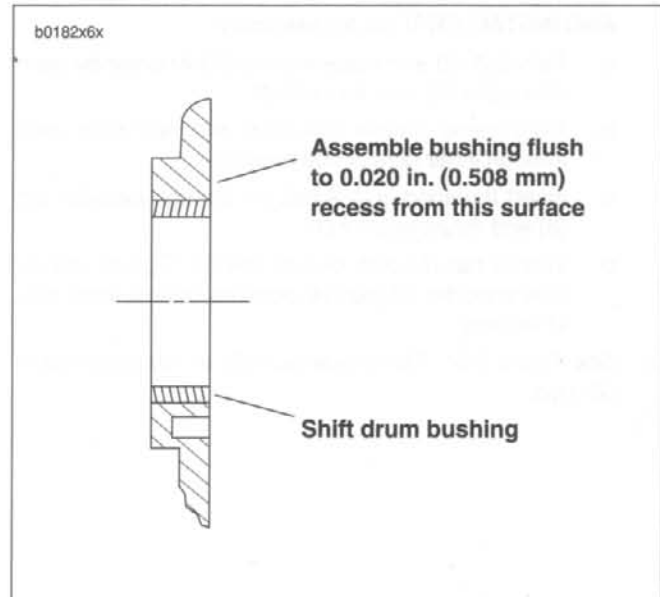

Figure 6-57. Shift Drum Bushing Assembly
2. See Figure 6-57. Lay bushing squarely over bore. Locate socket or pipe that is slightly larger than diameter of bushing. Place socket or pipe on bushing and press into bore until bushing is flush with or 0.020 in. (0.508 mm) below inside surface. If using a pressing tool larger than diameter of bushing, the pressing tool will bottom against door when bushing is flush with top surface.